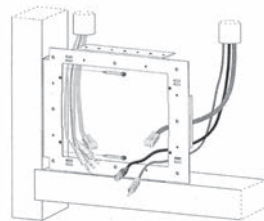

Figure 2 - Nail Bracket Cabling
- 4) Feed the cables through to the nail bracket. The use of conduit is recommended. Refer to Figure 2. The number and positioning of cables will vary depending on the particular installation.